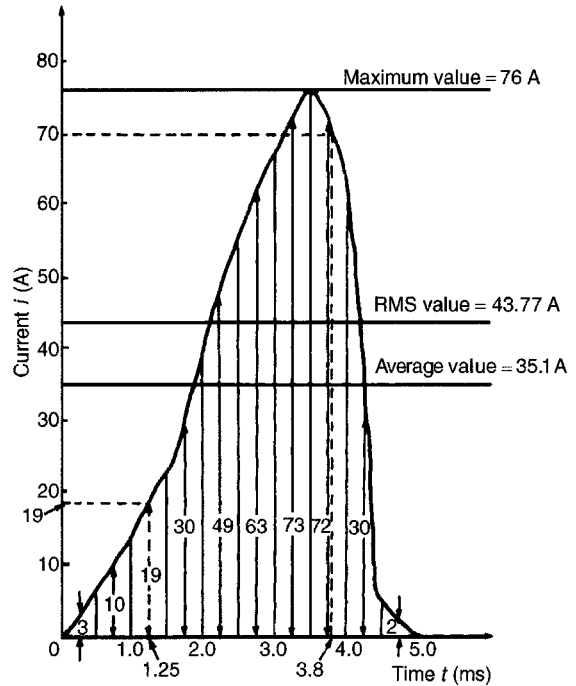

Figure 14.6
The half cycle of alternating current is shown plotted in Fig. 14.6
- (b) Instantaneous value of current after 1.25 ms is **19 A**, from Fig. 14.6. Instantaneous value of current after 3.8 ms is **70 A**, from Fig. 14.6
$$\begin{aligned} \text{area under curve} \} &= (0.5 \times 10^{-3})[3 + 10 + 19 + 30 \\ &\quad + 49 + 63 + 73 + 72 + 30 + 2] \\ &\quad \text{(see Fig. 14.6)} \\ &= (0.5 \times 10^{-3})(351) \end{aligned}$$